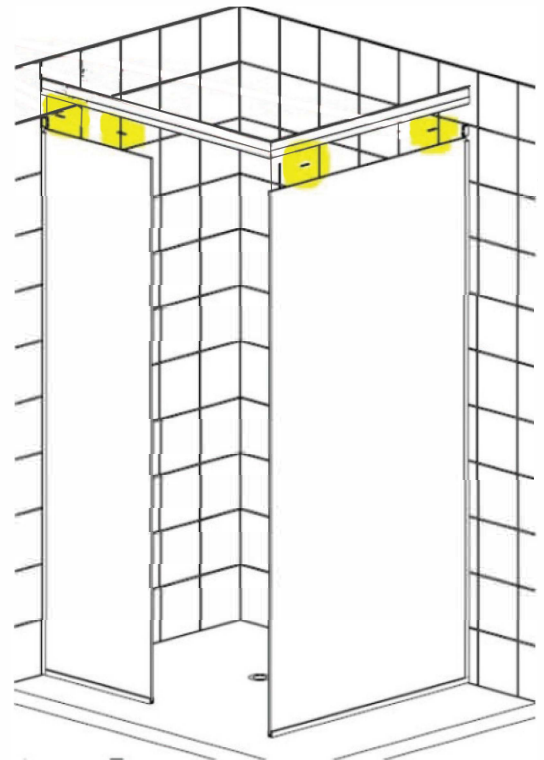

FIG 17.
- Use 2mm setting blocks on top of fixed glass panels to prevent the sliding door track metal directly contacting the glass (**FIG 17**). Dry fit and position on top of glass.